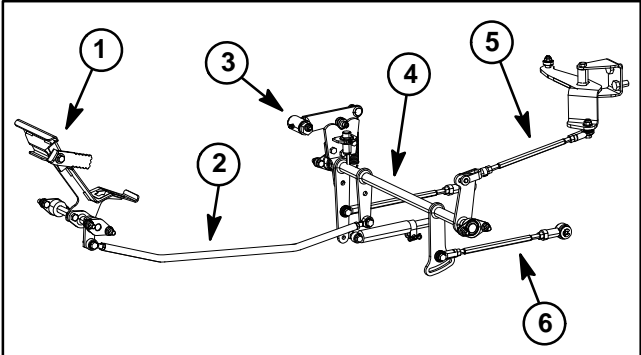

Figure 53
The Groundsmaster 360 transmission includes two (2) piston pumps. The swash plate in each of the piston pumps is controlled by the operator traction pedal through the traction linkage assembly. Correct assembly of the traction linkage assembly (Fig. 53) is required for proper traction circuit operation.